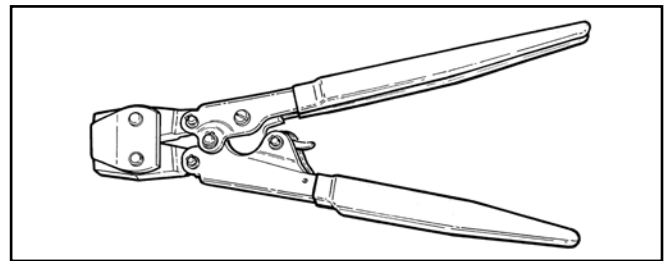

Fig. 2: Item no. 14100069
2. **2-Handle Ratchet Pincer** (Fig. 2)